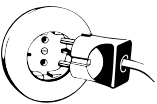

Fig.16: Connecting
1. Hold the fan by the grip (fig. 16, no. 20) and place it on a dust free, stable and horizontal surface.